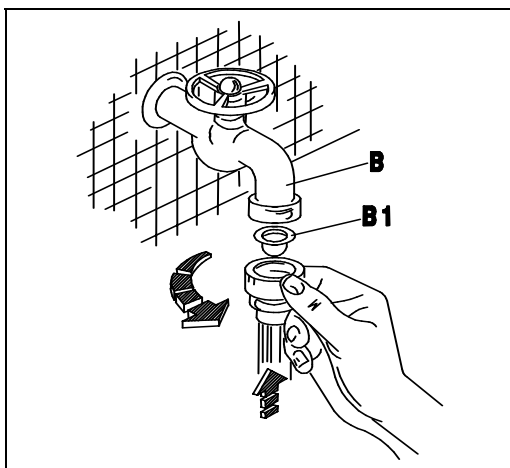
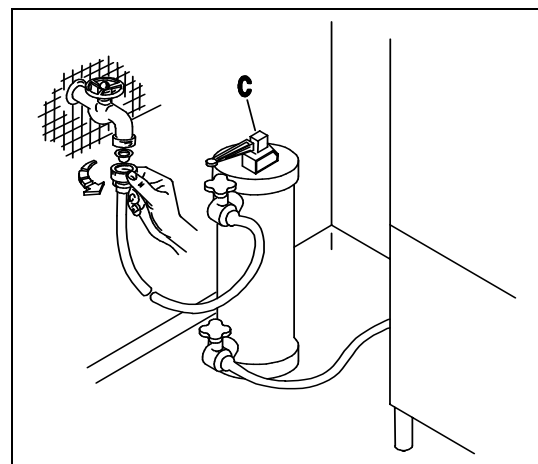
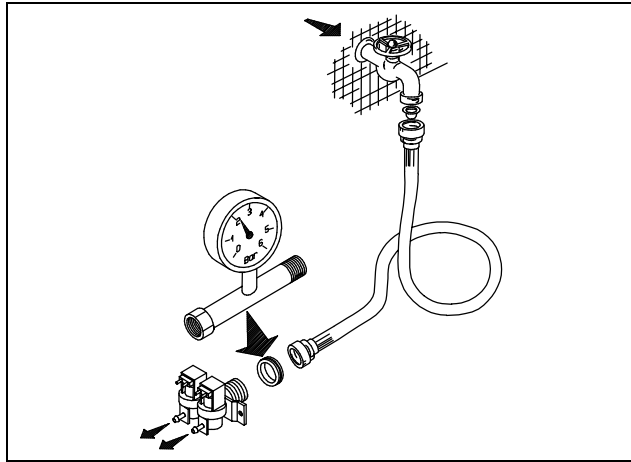
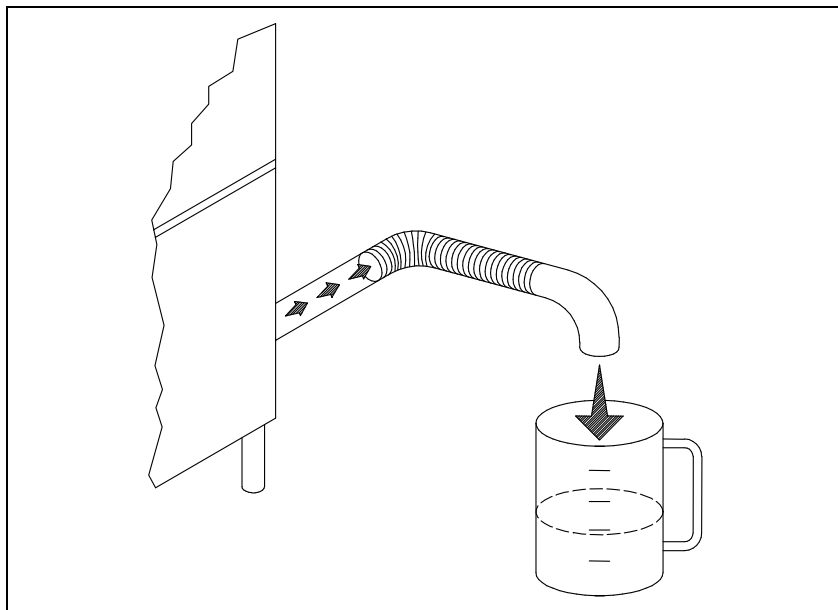

Fig. 2-2
Fig. 2-3
Fig. 2-4
Fig. 2-5
- The appliance is designed for connection to the cold or hot water supply (max. 50-55°C) at a mains pressure with the valve open as shown in Table 2-1 and a minimum output of 10 litres/min. If pressure exceeds the maximum, fit a pressure reducer. If pressure is lower than the minimum, fit a pressure booster pump of max. 0.5 HP, with an output of 20 litres/min. and a head of 15÷20 metres. Pressure must be measured at the solenoid valve inlet (see fig. 2-4). The water pipes must have an internal diameter of at least 16/18 mm (see fig. 2-5). Connect the appliance water supply pipe to a cut-out tap (B), preferably placed close to the appliance, fitting the special filter provided (B1) (see fig. 2-2). We recommend fitting a water softener (C) (not provided) upstream from the machine solenoid valve (see fig.2-3).